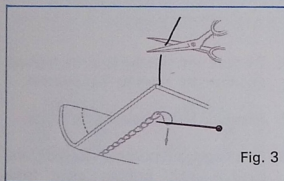

Fig. 3
3. Holding the last stitch and material between your thumb and finger, cut the thread and pull thread to the underside. This will lock the last stitch. See illustration. (Fig. 3)